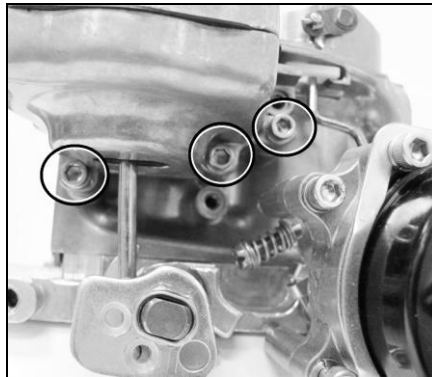

Figure 9
11. On vacuum secondary models, the diaphragm housing is attached to the main body by three screws and the diaphragm rod is held on the throttle shaft linkage by a retainer "C Clip". With these removed, the housing can be pulled from the main body (Fig. 9).